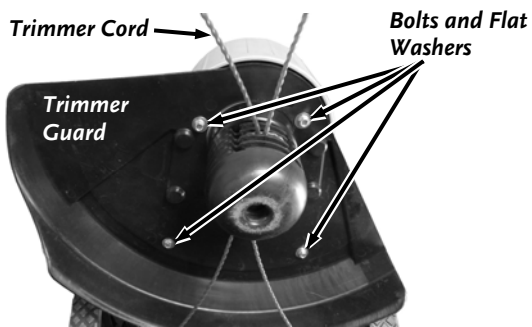

Figure 26
3. Remove the four Trimmer Guard Bolts and Flat Washers with a 3/8" Wrench. Remove the Trimmer Guard (**Figure 26**).
15. Position the Trimmer Guard and secure with the four Bolts and Flat Washers using the 3/8" Wrench (**Figure 26**).